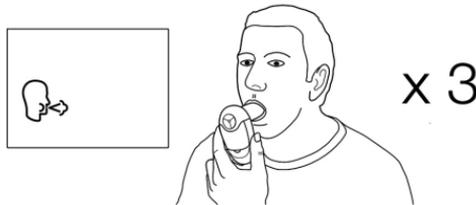

Figure 3. Holding device during test.
4. When the device is ready for a test () , holding the head high, breathe in as deeply as possible, hold the Vitalograph asma-1 USB ready in front of the mouth, see Figure 3.